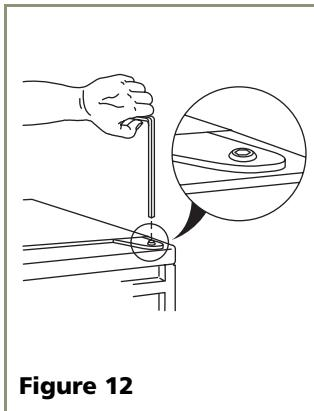

Figure 12
- Remove top hinge screw pin (7/64" Allen wrench or Phillips screwdriver, depending on your unit's construction, see **Figure 12**). Remove door by tilting forward and lifting off bottom hinge pin.